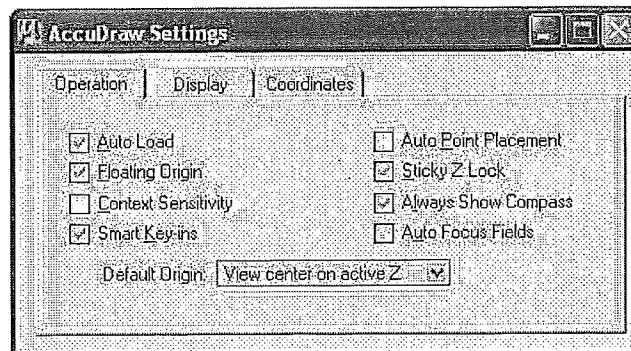

Figure P5-3 AccuDraw Operation settings
STEP 8: Click the **Operation** tab and make the settings shown in Figure P5-3.